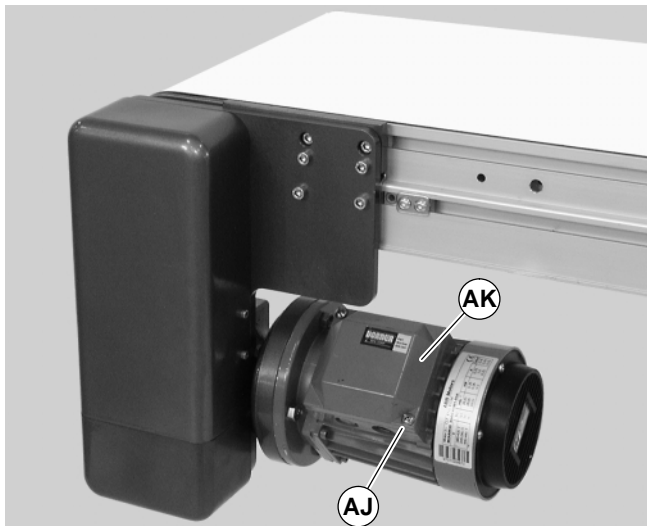

Figure 20
- Loosen terminal box screws (AJ of Figure 20) and remove cover (AK).